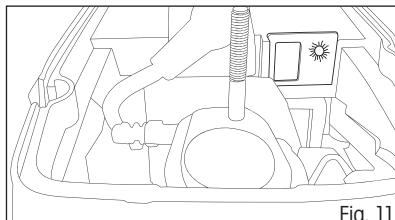

Fig. 11
- At temperatures above +10°C, return the flap to the summer position, otherwise the motor may malfunction due to overheating. The summer position symbol „Sun“ must be visible, see fig. 11.**